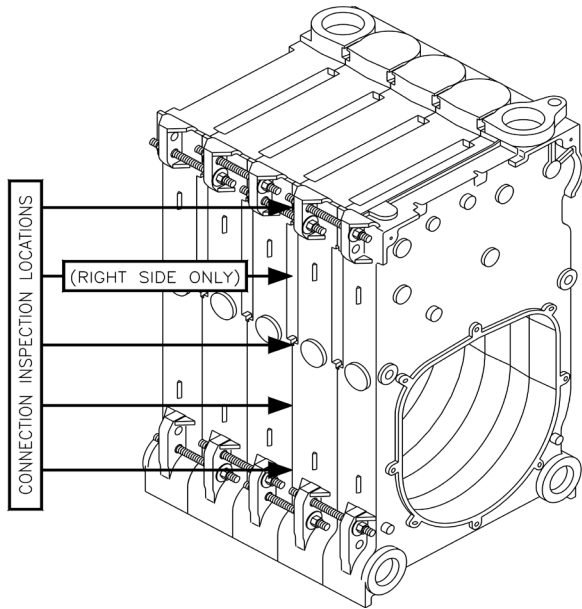

Figure 9: Connection Inspection Locations and Manual Draw-Up Tie Rod Pattern
- l. The large draw-up rod lugs with dual holes are cast in the four (4) corners of each casting. STARTING WITH THE UPPER HOLES, install four (4) 5/8" x 9 3/4" long draw-up rods along with washers and nuts (see Figure 9).
it squeezes when the sections come in close contact. The silastic sealant should continue to squeeze out wafer thin until the sections are connected metal to metal. If the silastic has stopped squeezing out from the connection and the sections still do not appear to be drawn metal to metal, use a feeler gauge to measure any gaps at the locations identified in Figure 9. (Unless specified otherwise, gaps should be measured at these locations on both sides of the sections.) A maximum gap of .025" is acceptable. Measure gaps at the outer edge of the connection only, making sure not to puncture the gasket created by the silastic and rope.